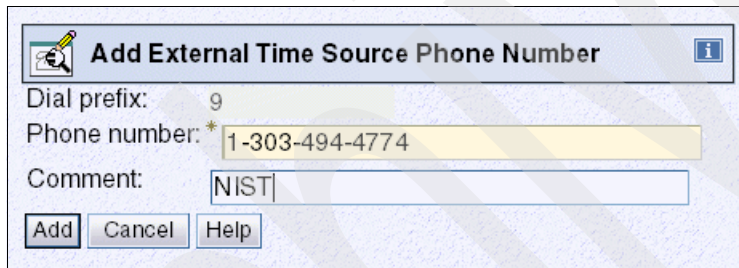

Figure 7-3 Add External Time Source Phone Number panel
5. Enter the appropriate Phone number in the Add External Time Source Phone Number dialog (Figure 7-3).